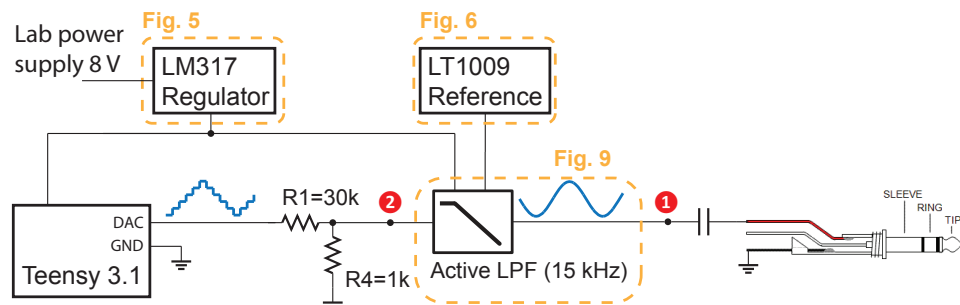

Figure 11: Acquiring signal through computer sound card.
1. Set up the system according to Fig. 11
7. Now use the audio cable to acquire the signal after the gain stage (position 2 in Fig. 11). Record the data and compare it with that from the last step. Explain the difference, if there is any.